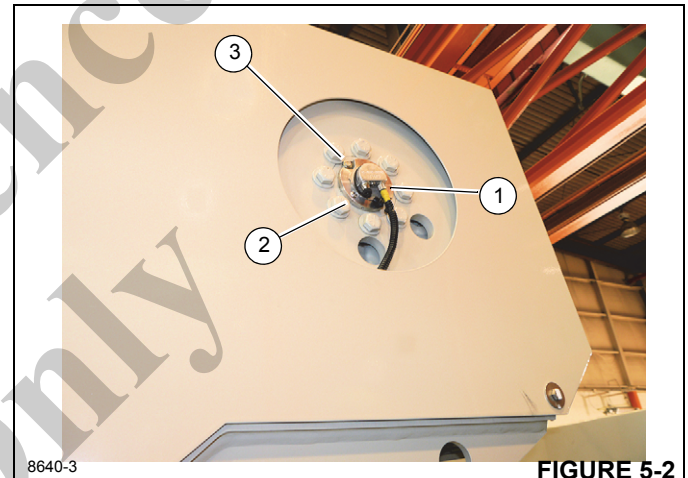

FIGURE 5-2
1. Loosen the collar on the connector and unplug the DRI cable (1, Figure 5-2).
2. Remove the two retaining screws (2).
5. Push the DRI into the drum so that the notch is lined up with the breather (3, Figure 5-2).
6. Secure the DRI with the retaining screws (2, Figure 5-2).